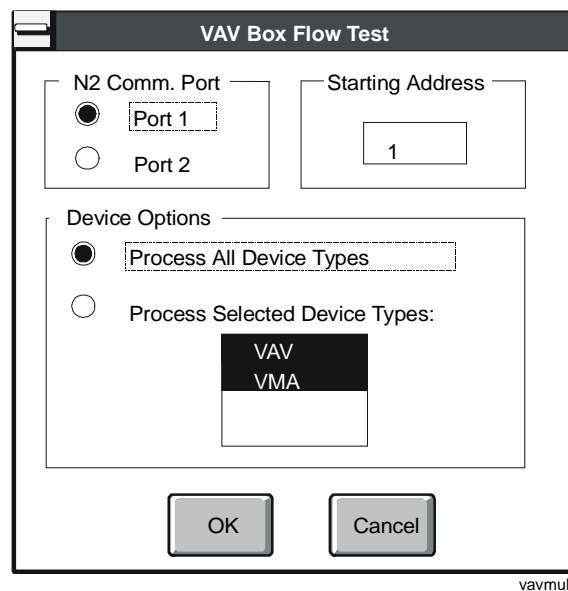

Figure 15-16: VAV Box Flow Test Dialog Box - Communications
3. Select the flow test parameters (see Figure 15-2), then click OK. A dialog box similar to Figure 15-16 appears.